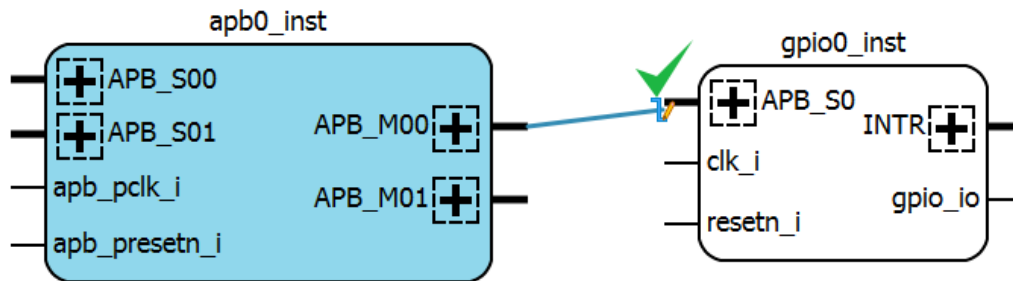
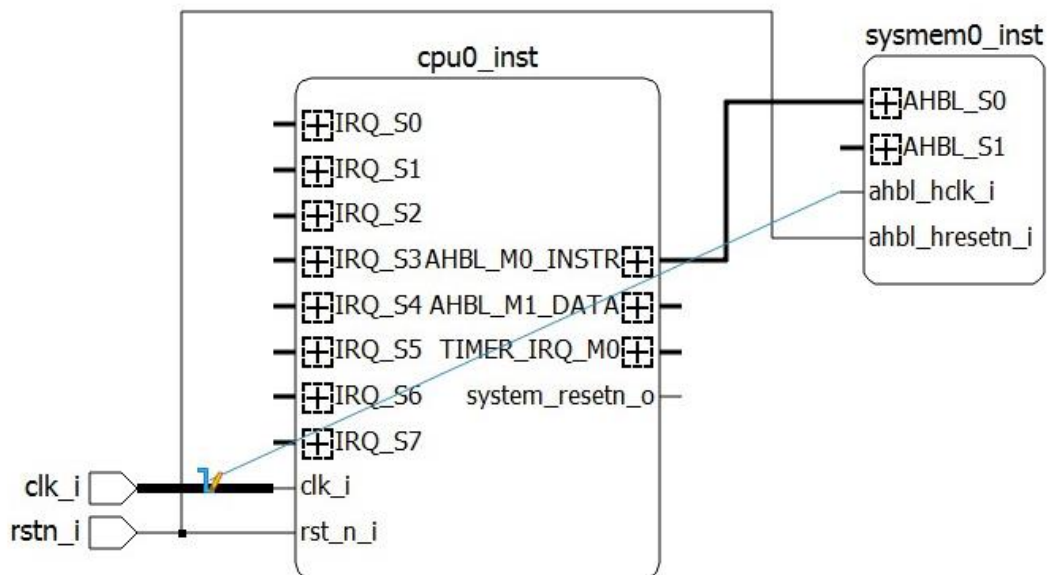

Figure 2.52. Draw a Pin or a Port
Figure 2.53. Draw Nets
- Move the cursor to a pin or port. The cursor changes to a pencil icon . Click and hold while dragging to another pin, port, or net. An allowed pin or port shows a green checkmark when you hover over it (Figure 2.52). An allowed net becomes bold when you hover over it (Figure 2.53).